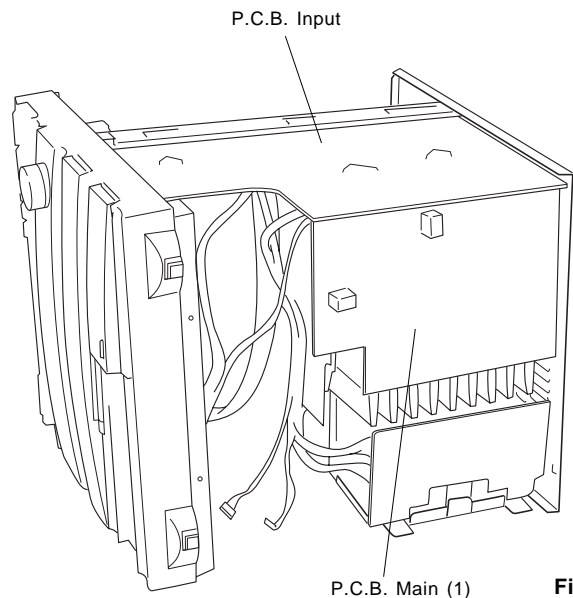

Fig. 9
- Place the main unit on its left side (viewed from the front) and remove the Bottom Cover in Fig. 9.
- Install the Panel unit to the main unit in Fig. 9.